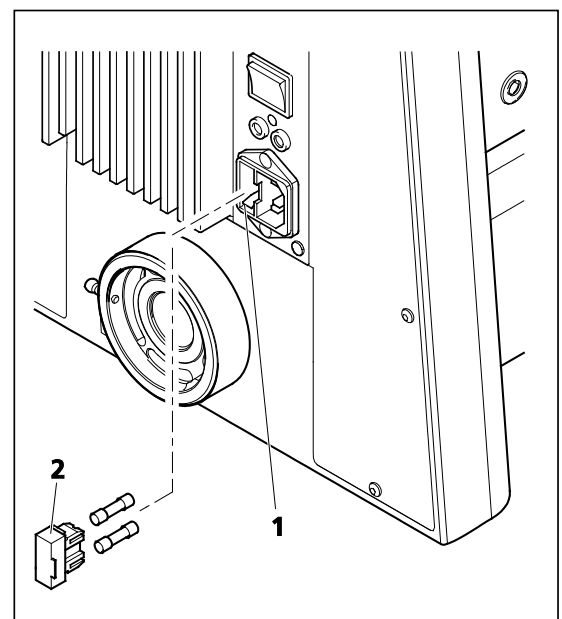

Fig. 213 Changing fuses on the stand
- Pull out fuse holder (Fig. 213/2) forward. Use a small screwdriver, if necessary.
- Push the fuse holder back into the fuse compartment (Fig. 213/1) as far as it will go.